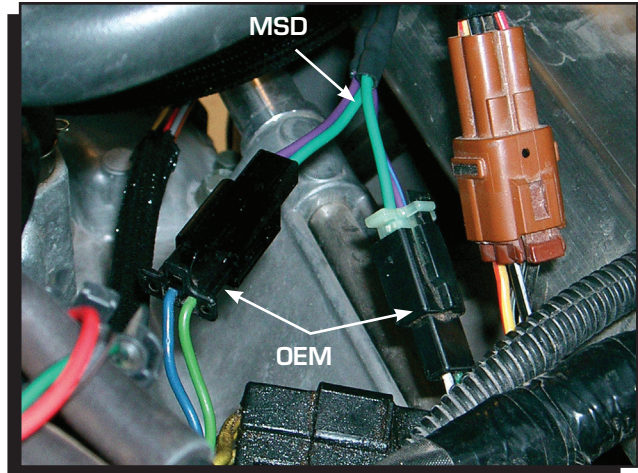

Figure 13 Crank Sensor Connections.
4. Locate the black 2-pin Crank connectors under the tank and plug the MSD harness inline (Figure 13).